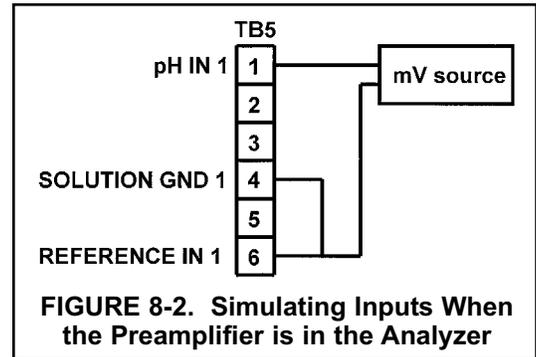

FIGURE 8-2. Simulating Inputs When the Preamplifier is in the Analyzer
4. If a standard millivolt source is available, disconnect the jumper wire between pH IN and REFERENCE IN and connect the voltage source as shown in Figure 8-2. Be sure to jumper the reference and solution ground terminals.